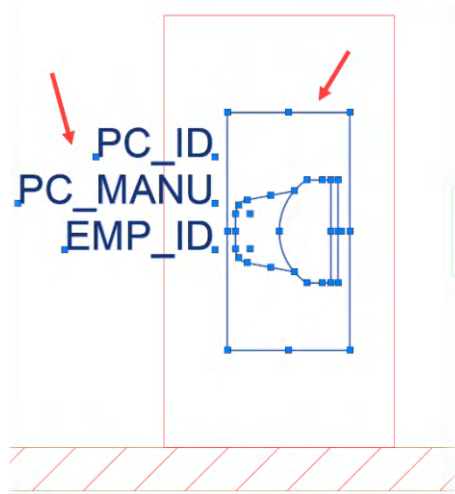

Figure 10.9: All attributes and objects selected
11. Select all three attributes and all the objects that will make up the new PC block, as shown in *Figure 10.9*. You will see all the grips displayed.